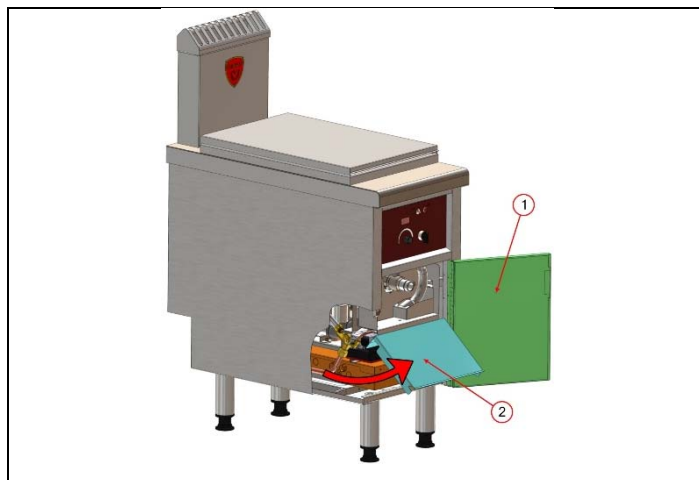

Fig. 7.
1. Open the door (Fig. 7. – Mark. 1)
2. Remove the protection cover (Fig. 7. – Mark 2)